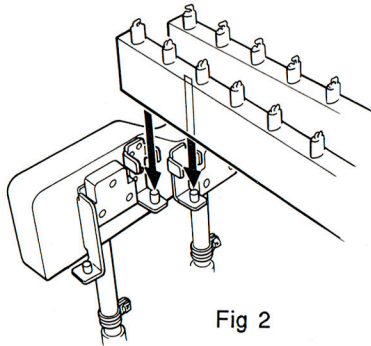

Fig 2
- 2 Place the two inside rails (B-F, C-G) onto the frame, matching the letters. (Fig 2)